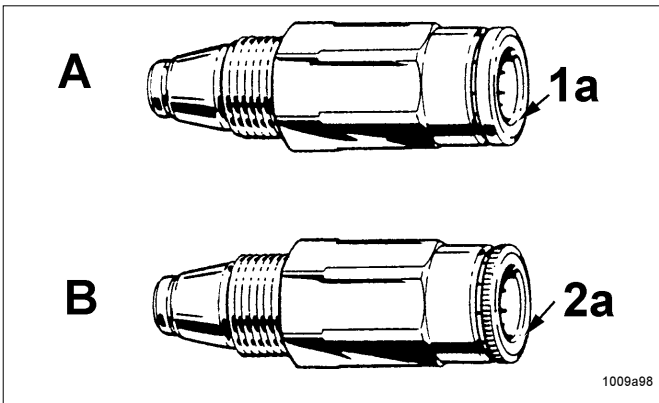

Fig. 35 - Different types of check valves
- For high-pressure plastic hose (\varnothing 8.6x2.3 mm) use check valves type A (fig. 35) with reinforced collar 1a and smooth flange (part nr. 226-14091-4)
- For pressure plastic tube (\varnothing 6x1.5 mm) use check valve type B (fig. 35) with standard collar 2a and knurled flange (part nr. 226-14091-2)